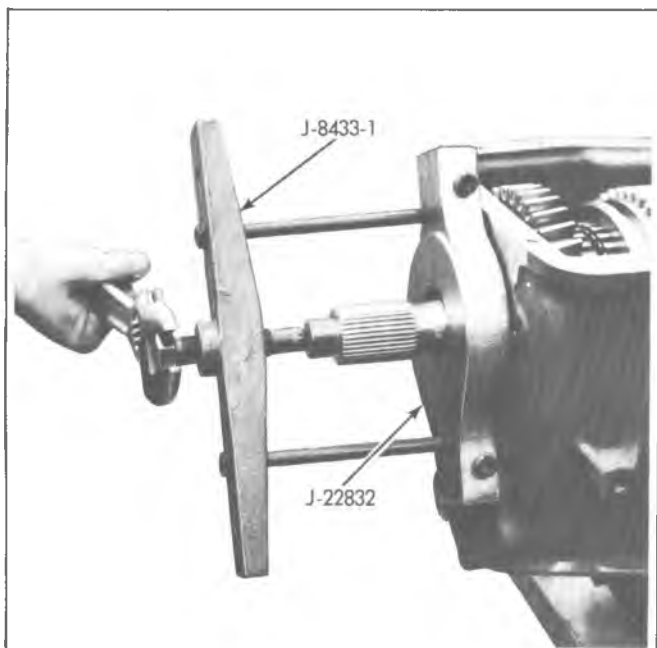

Fig. 7B-4L--Removing Mainshaft Rear Bearing
12. Remove rear mainshaft bearing retainer ring (snap ring) and using Tool J-22832 and J-8433-1, remove bearing from case (Fig. 7B-4L). Slide 1st speed gear thrust washer off mainshaft.